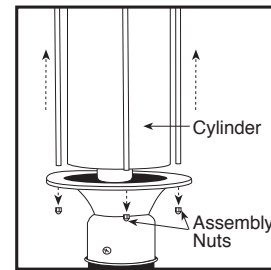

Figure 5
- For Cylinder fixtures, unscrew the assembly nuts from bottom, lift body of fixture slightly. Insert bulb. Reattach body using assembly nuts. (see figure 5)